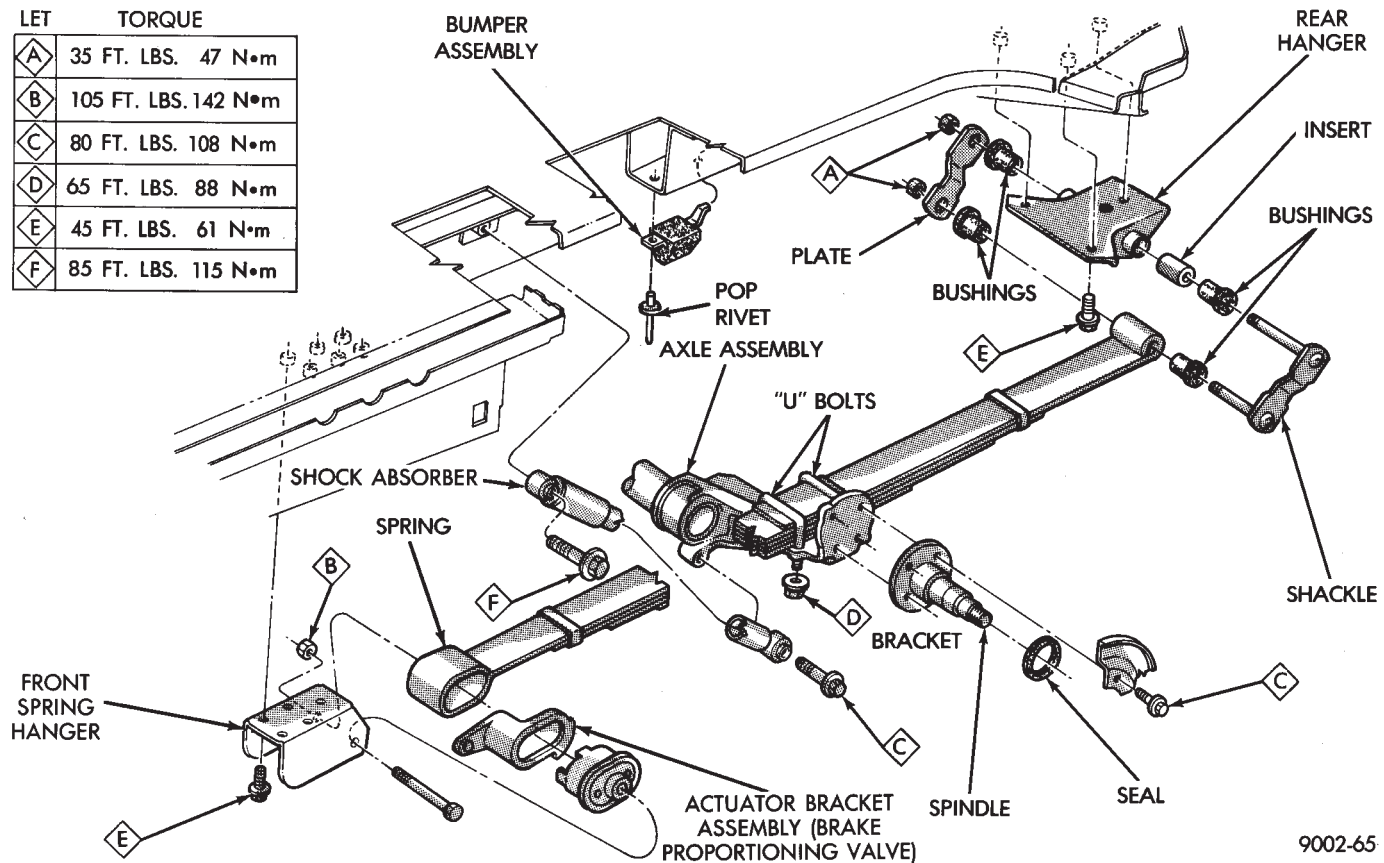

Fig. 1 Rear Suspension
- (1) Raise vehicle on frame contact hoist to a comfortable working position.
- (2) Using floor stands under the axle assembly, raise axle assembly to relieve weight on rear springs.
(3) Disconnect the actuator assembly for height sensing proportioning valve (Fig. 1). Disconnect lower ends of rear shock absorbers at axle brackets.
(4) Loosen and remove “U” bolt nuts and washers, remove “U” bolts.
(5) Lower rear axle assembly, permitting rear springs to hang free.
(6) Loosen and remove four bolts from front spring hanger.
(7) Loosen and remove rear spring shackle nuts and plate, remove shackle from spring.
(8) Loosen and remove front pivot bolt from front spring hanger.